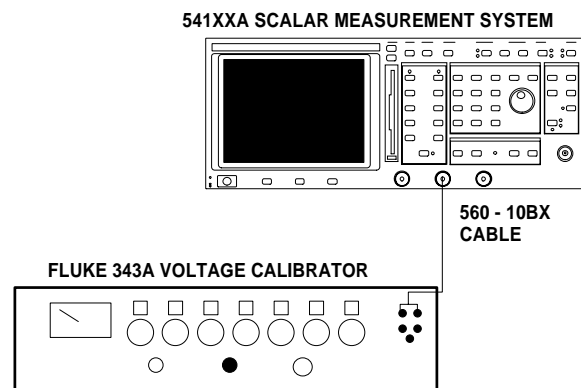

Figure 5-3. Signal Channel Verification, DC Voltage Method Test Setup
Step 1. Set up the equipment as shown in Figure 5-3, and turn the equipment on.